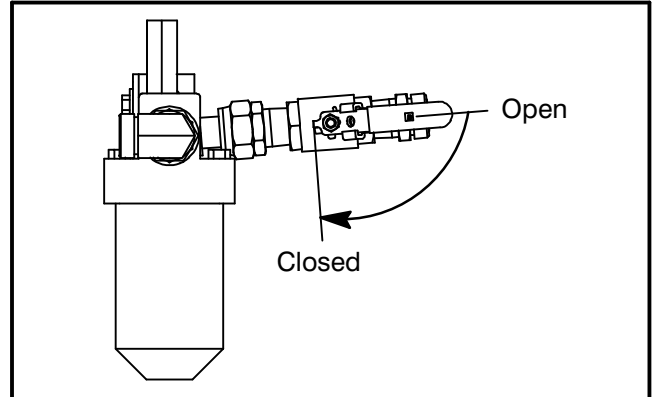

Figure 2–11
2. Relieve any trapped hydraulic system pressure by loosening the filler/breather cap, located on the hydraulic reservoir, 1/4 turn until pressure is fully relieved. Refer to Figure 2–7.